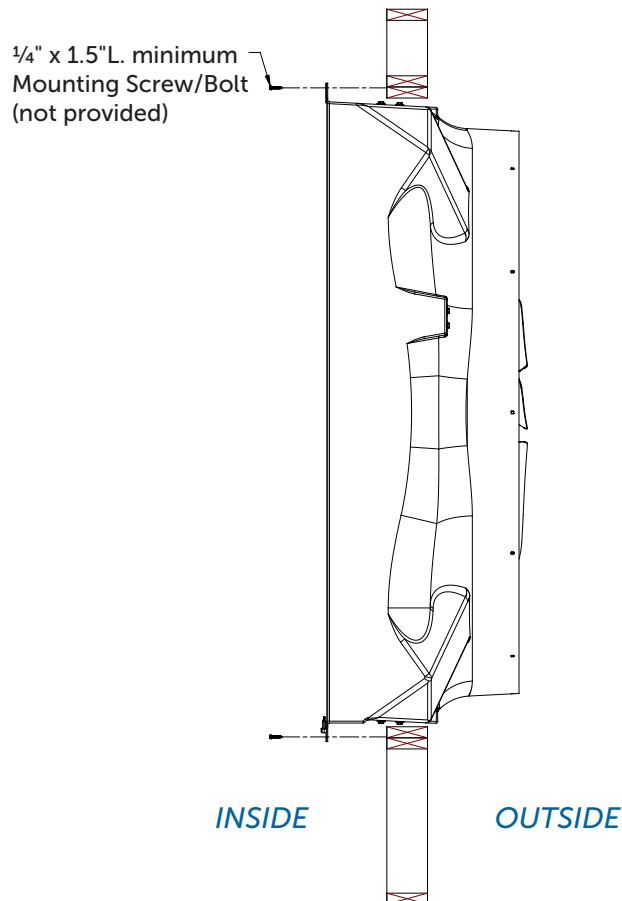

Figure 3A
Using the Center Support Strut, lift fan and insert into the framed opening from the inside. While holding fan tight to framing, fasten top of fan with (5)  $\frac{1}{4}$ " x 1.5"L. minimum Mounting Screw/Bolt (not provided). *See Figure 3A and 3B.* Next, fasten bottom of fan, then both sides with (5)  $\frac{1}{4}$ " x 1.5"L. minimum Mounting Screw/Bolt (not provided) per side. Install flashing around opening tight to fan and caulk around fan to seal.